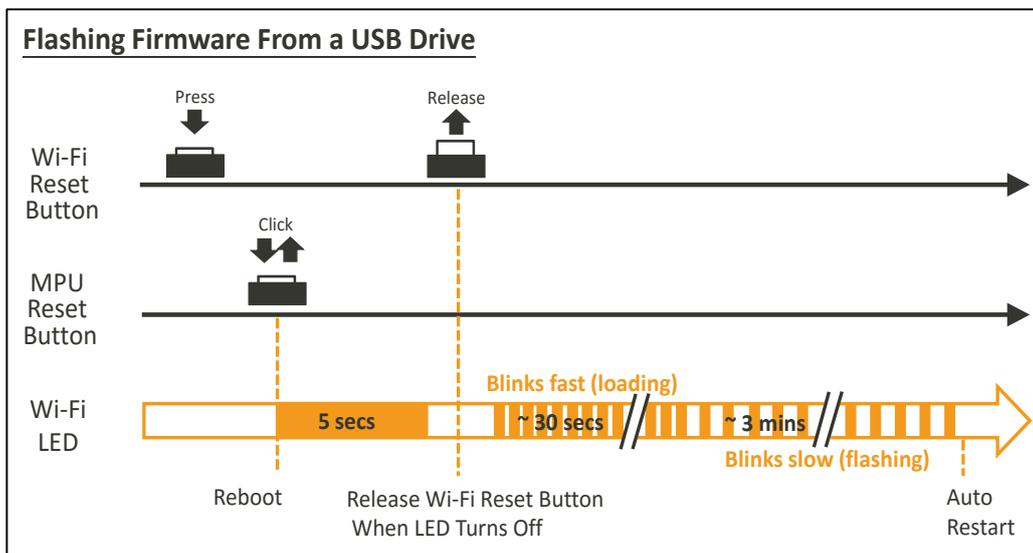

Figure 27 Wi-Fi LED Status During Firmware Upgrade
- 3) Press the Wi-Fi and MPU (Reset) button, then release the MPU Reset button only but hold the Wi-Fi button for at least 5 seconds and release (Wi-Fi LED turns off), see Figure 27 for detailed LED status. Do not press the Wi-Fi button for longer than 20s or it will upgrade the bootloader.